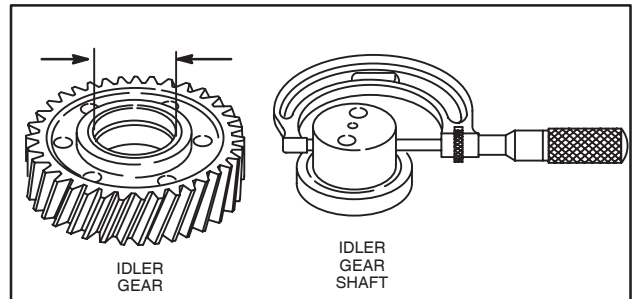

Fig. 7 – Checking Idler Gear And Shaft
2. If backlash exceeds 0.2 mm (.008”) check idler gear bearing and shaft for wear, Fig. 7.